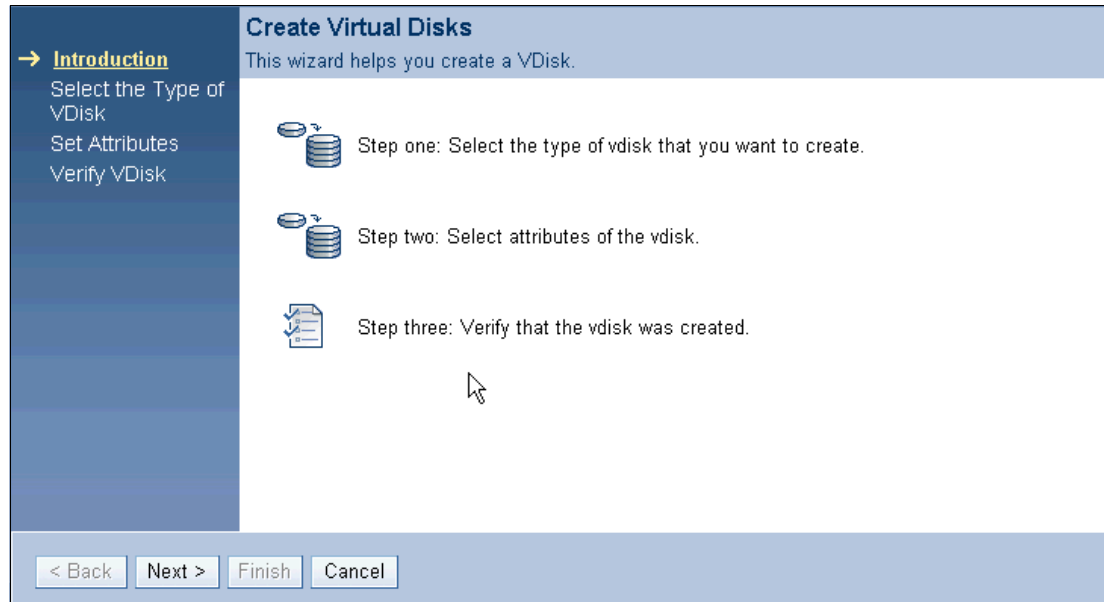

Figure 12-23 Create Virtual Disks
2. The Create Virtual Disks panel (Figure 12-23) of the wizard is displayed. Click **Next**.